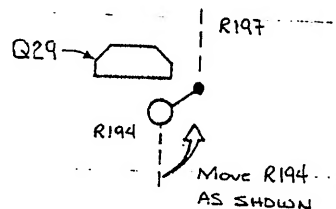

FIGURE 2
10. Install a 560K ohm resistor on the component side of the board as shown in figure 2. This resistor is now designated as R194.